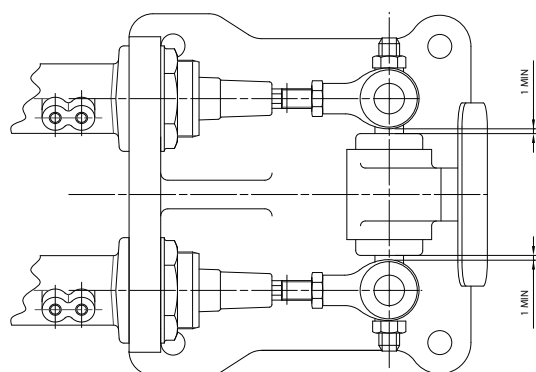

Fig. 1b
- Check that between the joints of the rod connecting the two push rods and the pedal there is a clearance of at least 1 mm each side, in order to allow the eventual inclination of the rod compared to the push rods axle (see Fig. 1b).